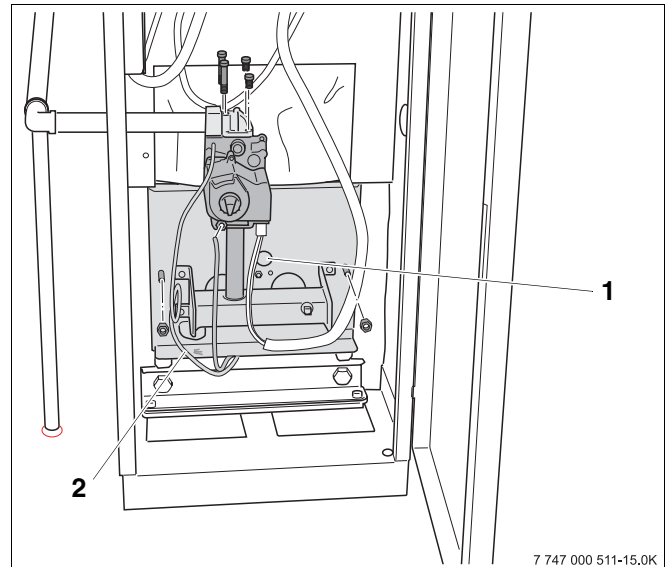
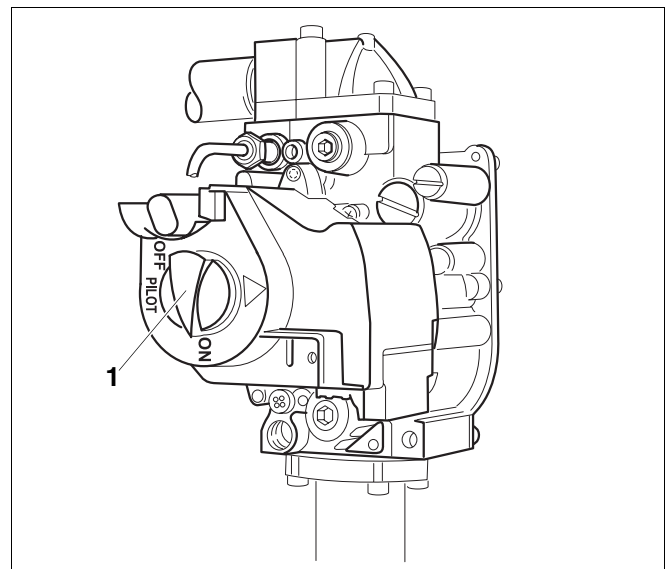

Fig. 16 GC124 SP boiler
Fig. 21 GC124 SP gas valve
16. Observe main burner flame through the sight glass (→ Fig. 16, page 16) in the burner plate. The flame must have a steady and fixed contour and generally has a bluish color. If the main burner flame meets the requirements, proceed with step 17. If the main burner flame is too weak or is yellow or goes out, turn the ON/OFF knob (→ Fig. 21) on the gas valve clockwise to OFF. Close the gas shut-off and disconnect the heating system from the power supply and contact the customer service technician or the gas company.
17. Turn gas valve ON/OFF knob (→ Fig. 21) clockwise to OFF position. The main burner flame and the ignition flame are extinguished.
18. Turn gas valve ON/OFF knob (→ Fig. 21) counterclockwise to PILOT position.
19. Wait three (3) minutes and turn gas valve ON/OFF knob (→ Fig. 21) counterclockwise to ON position.
21. If gas flows turn gas valve ON/OFF knob (→ Fig. 21) to OFF position immediately to close the gas valve. Disconnect heating system from the power source and inform your customer service technician or gas company. If no gas flows continue with step 22.